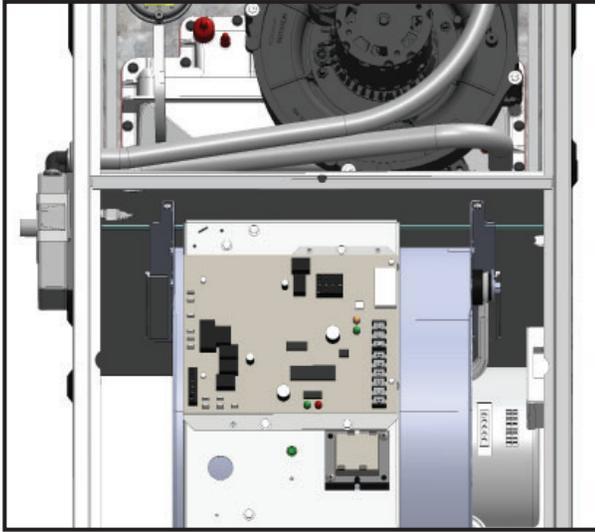

Fig. 3: Blower module mounting screws
5. In the lower vestibule of the furnace, locate and remove the 2 screws holding the blower module in place (if required, disconnect stat wires) **(Fig. 3)**. **NOTE:** Take care of leads so there is no pinching during removal.